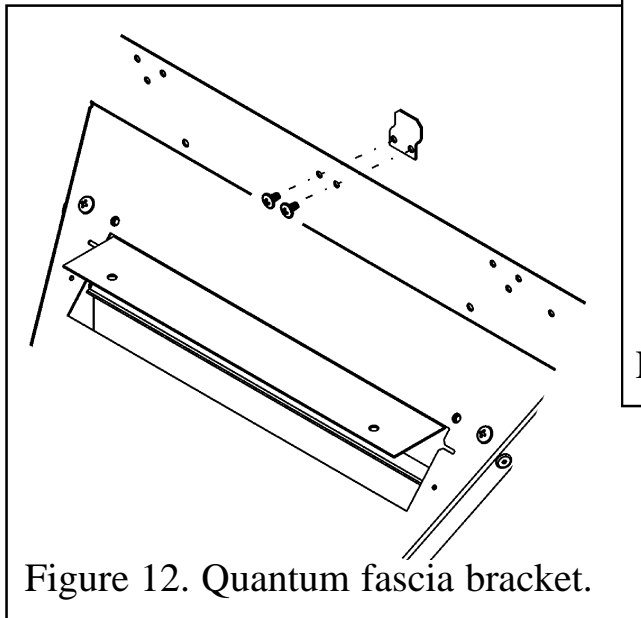

Figure 12. Quantum fascia bracket.
1. Supplied in the loose parts pack is a fascia hanging bracket 'E'. Fit this to the top of the hotbox using two of the 'A' screws supplied. (See figure 12).